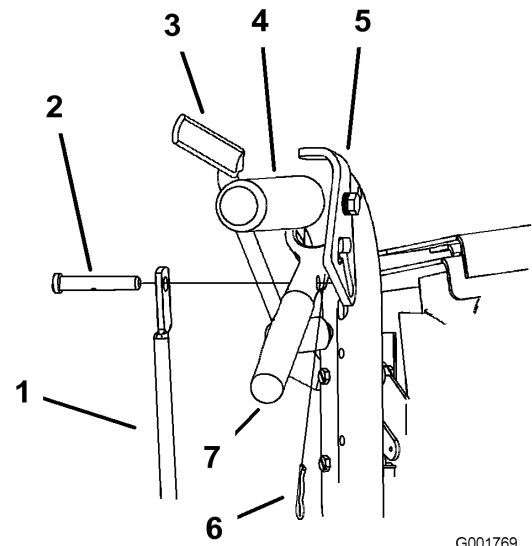

Figure 35
1. Remove the hairpin cotter pins and clevis pins from the drive levers and neutral locks (Figure 35).